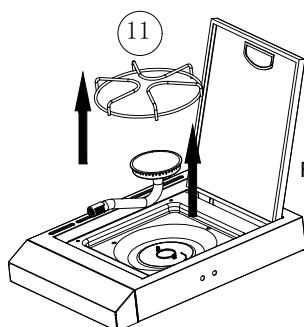

Figure 2
- c) Install the Magnet(28) into Cart Frame Right Fixture (24) as shown in the Figure2.
- b) Remove the side burner rack and side burner as shown in Figure 2.